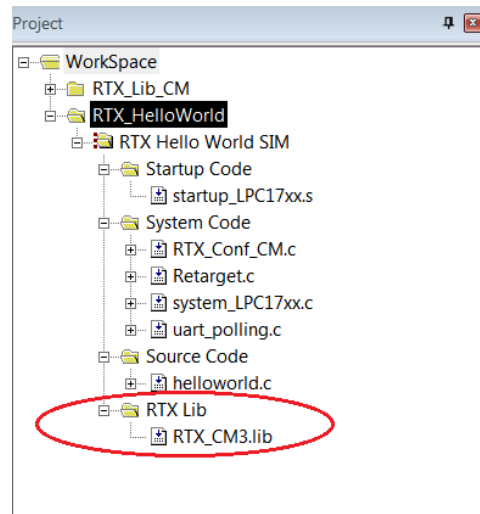

Figure 1.27: Keil IDE: Adding Your Own RTX Library
3. Add the RTX library we built (i.e. RTX\_CM3.lib) to the project (see Figure 1.27).